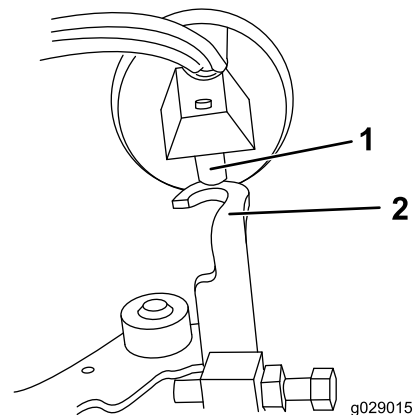

Figure 14
6. Position the fuel-stop solenoid so the plunger pin aligns with the engine-stop-lever hook (Figure 14).